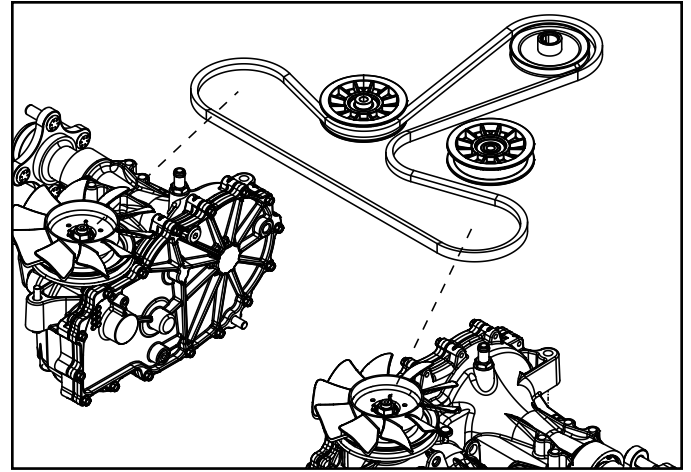

Fig. 067
1. Properly route the belt around the (2) hydro input pulleys, and (2) tensioner / idler pulleys (Fig. 067).